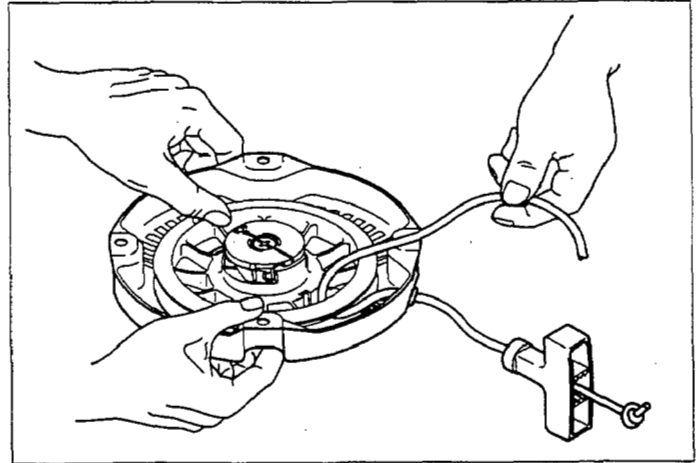

Fig. 9-1
(1) Setting off the spring power
- 3: Push and hold the reel with the thumbs of both hands firmly so that the rope will not be wound back. (Fig. 9-1)